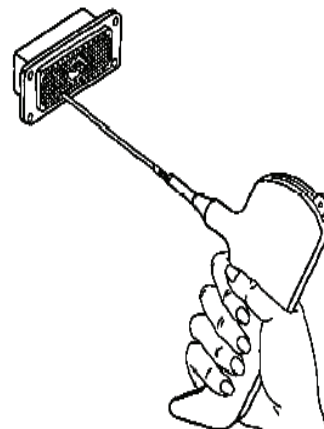

Figure 13. Contact Insertion
- g. With firm even pressure, press tool against contact shoulder and seat contact into cavity (Figure 13). A slight click may be heard as retention tines snap into place behind contact shoulder.